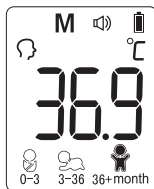

Figure 7
2. The thermometer will automatically memorize the last 30 temperature readings. Each memory also records the measurement mode icon. Each time the *Setting Button* is pressed, the screen displays past readings that correspond with a number 1–30. The number 1 reflects the most recent reading, while the number 30 reveals the oldest reading stored in memory. (See Figure 7)